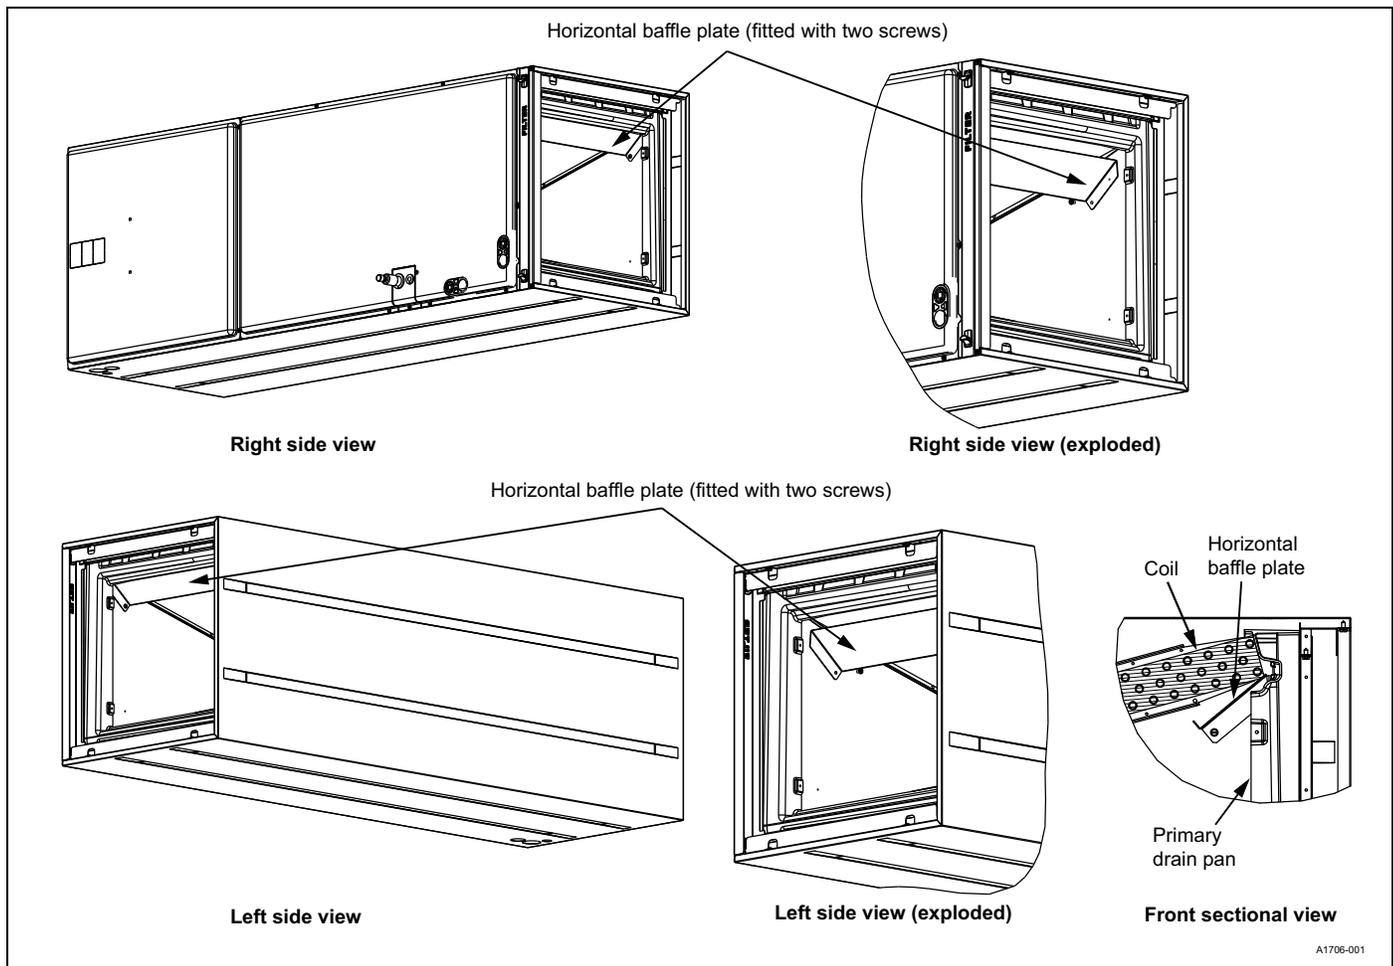

Figure 5: Horizontal baffle plate installation
2. Insert the horizontal baffle plate into the end of the coil. Insert one end of the horizontal baffle plate into the top side of the primary drain pan as shown in **Figure 5**.
Note: Figure 5 shows the air handling unit in the horizontal left hand position so that the horizontal baffle plate can be seen. However, the horizontal baffle plate is for horizontal right hand applications only.
3. Secure the horizontal baffle plate in place with two screws, one in the front delta plate and one in the rear delta plate. See **Figure 5**.